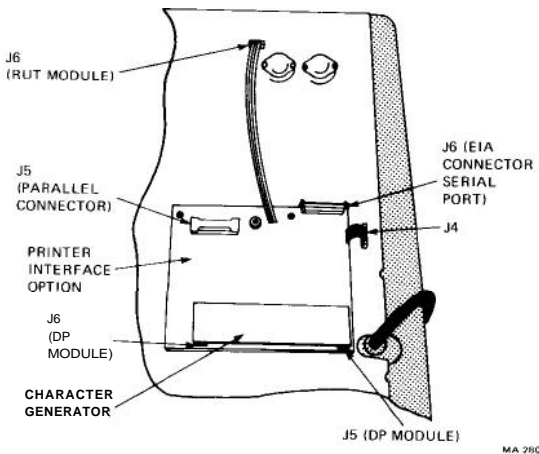

Figure 3-5 Removing and Replacing the Character Generator and Optional Printer Interface Module
3.4 REMOVING AND REPLACING THE CHARACTER GENERATOR (Figure 3-5)
3.5 REMOVING AND REPLACING THE PRINTER INTERFACE OPTION (FIGURE 3-5)